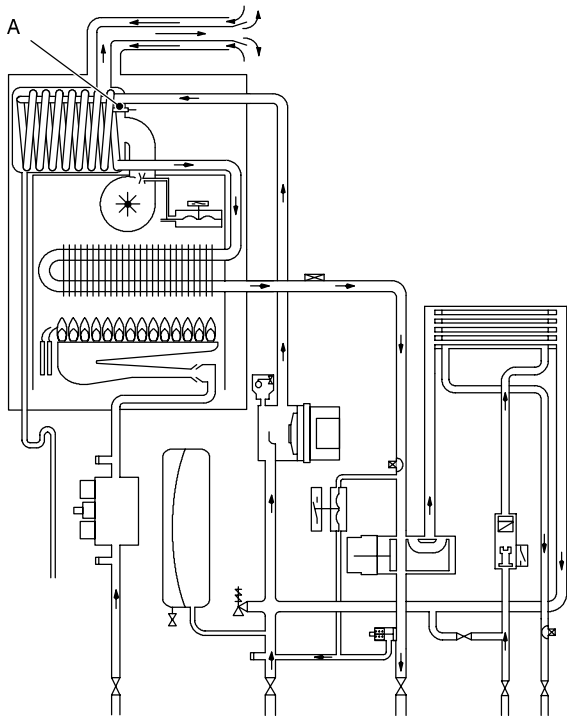
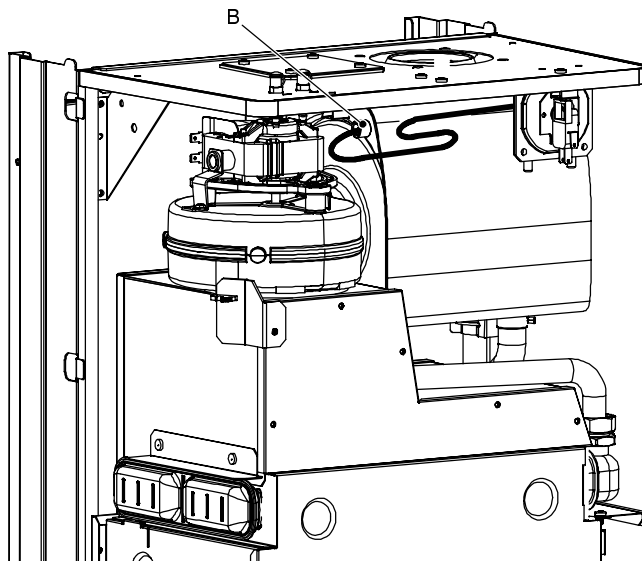

Fig. 86
Fig. 87
The Flue temperature probe NTC A in Fig. 86 and Fig. 87 senses the temperature of the combustion products that flow through the condensing heat exchanger.
- 3 Unscrew and remove the thermostat probe B (Fig. 87) from the condensing heat exchanger.